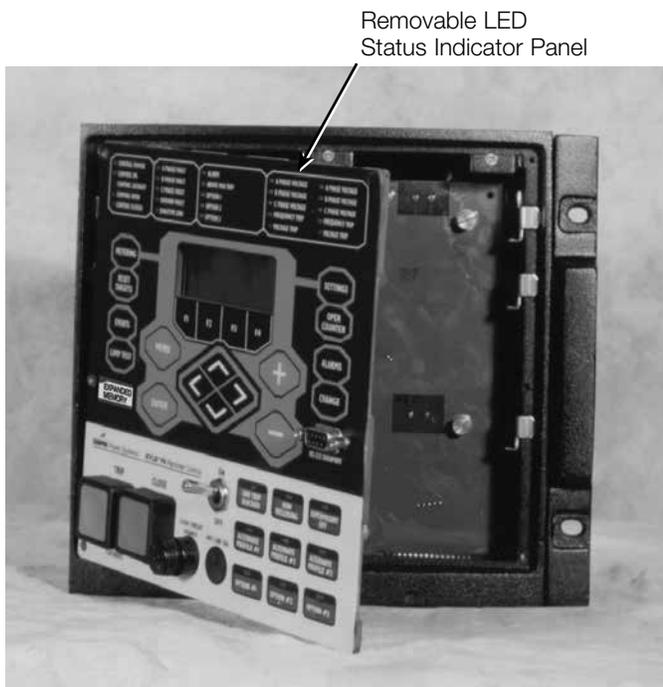
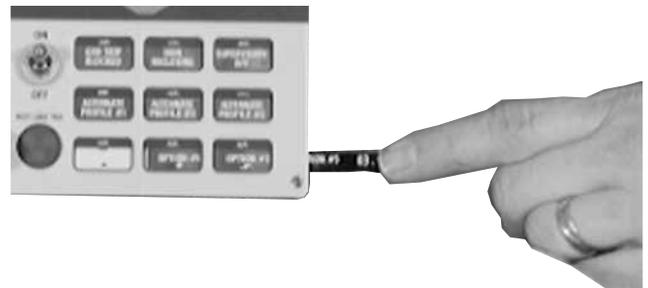

Figure 25. Open front panel. Labels are easily removed from and inserted into the top of the programming panel LED status indicator section.
Figure 26. Labels are easily removed from and inserted into the operating panel.
3. Pull the right side of the front panel out towards the left (Figure 25).
Note: The insert will slide out of the right side of the operating panel (Figure 26).
Note: The insert will slide out of the top of the programming panel indicator section (Figure 25).
6. Gently push the removable insert from right to left into the right side of the operating panel (Figure 26) or down into the programming panel LED indicator section (Figure 25).